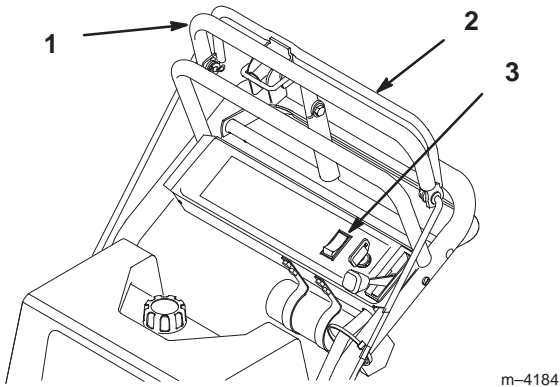

Figure 19
1. Pull on the upper control bar to stop the machine (Fig. 19).
- Releasing blade control bail to disengage blades (PTO) (Fig. 19).